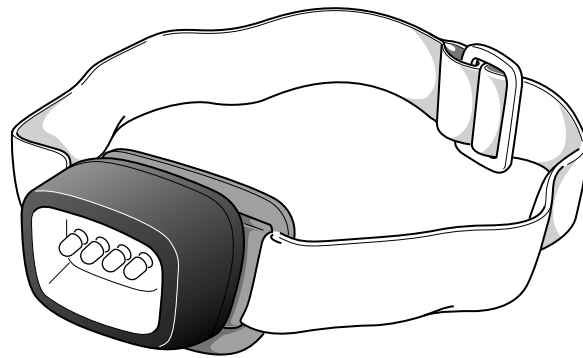

Fig. 8
Fig. 8 shows an LED head torch.
(a) Give **four** justified design requirements for an LED head torch of the type shown in Fig. 8.
(e) (i) The LED head torch shown in Fig. 8 contains a printed circuit board which uses surface mount technology (SMT).
- (ii) The LED head torch shown in Fig. 8 has a flashing function so that it can be used as a warning beacon.